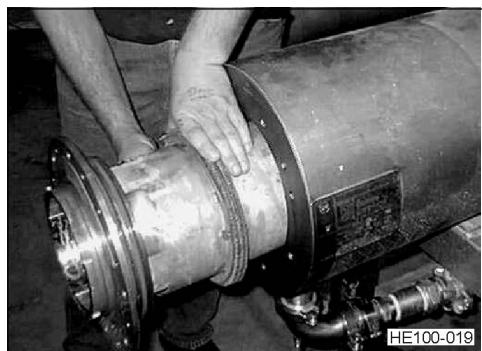

Figure 49 - Tube Removal
6. Take four (4) bolts and thread them into the "B" holes. The "B" holes are located at the 12, 3, 6, and 9 o'clock locations. **DO NOT TIGHTEN!**
8. Pull the tube out of the jacket. Take care to avoid marring the jacket cylinder during heat transfer tube removal. Mark the tube and jacket so that the tube can be reinstalled in the same jacket. See Figure 49. On liquid units, install a new packing ring.